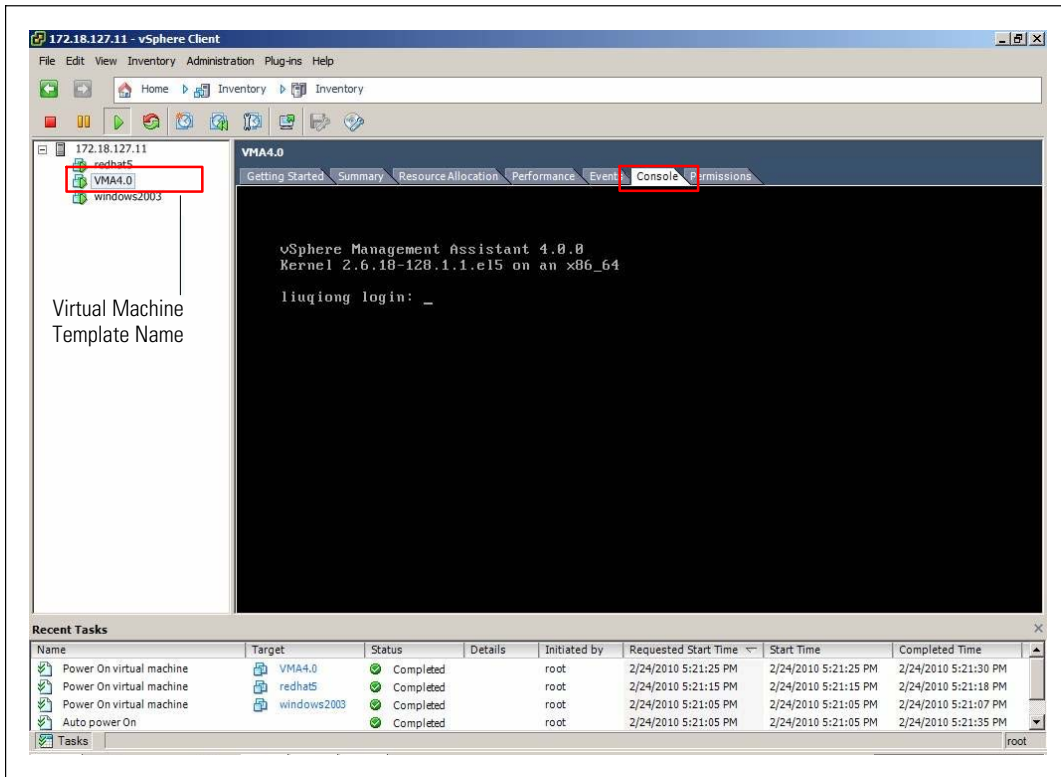

Figure 109. Console Window
- 1 On the VM Templates page, select the virtual machine template name and then select the **Console** tab. The virtual machine console displays (see Figure 109).